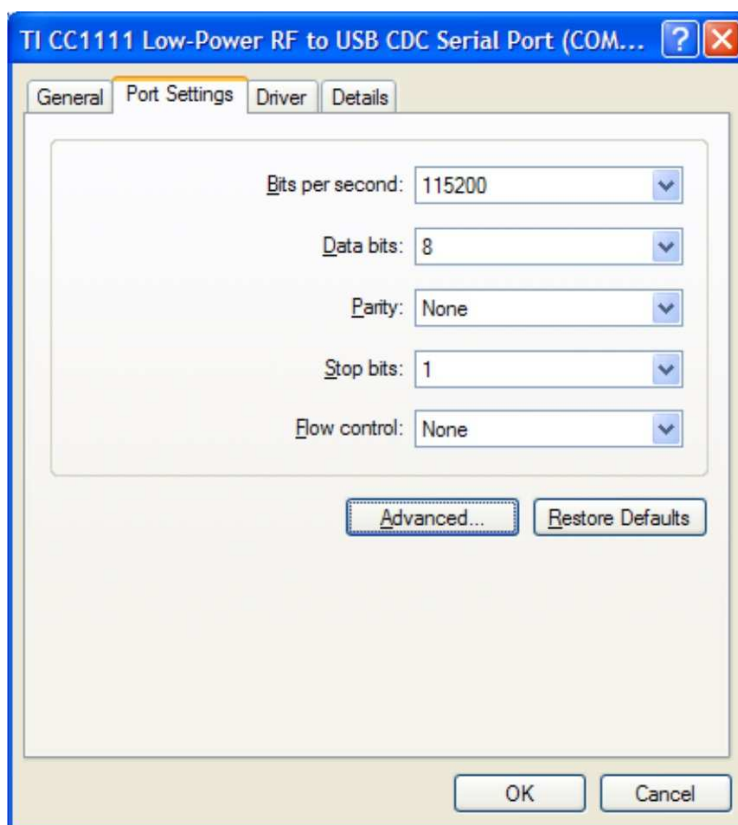

Figure B-8. CC1111 Port Settings
9. Verify correct properties of the port settings (see Figure B-8).